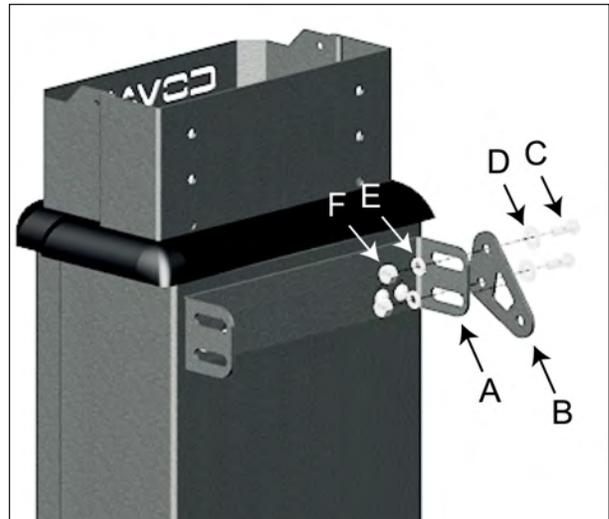
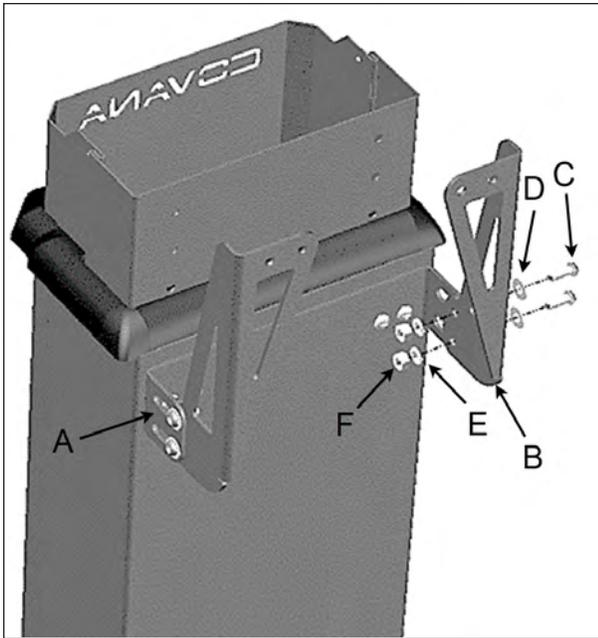
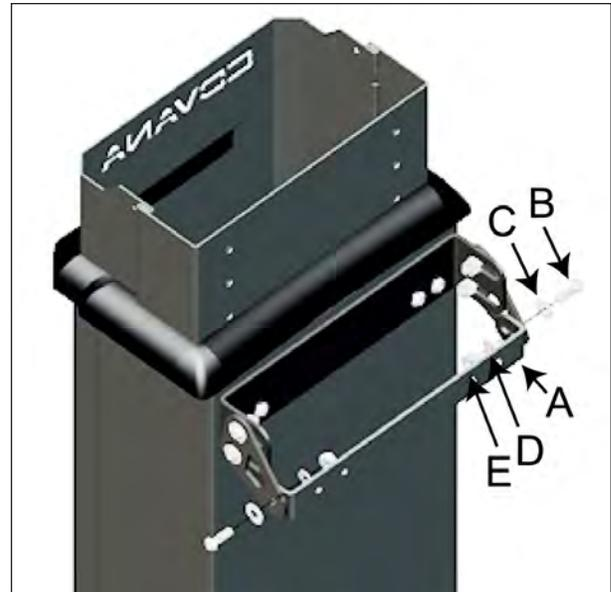

FIGURE 78: SHORT ARM INSTALLATION
FIGURE 79: LONG ARM INSTALLATION
FIGURE 80: TOP TUB MOUNT BRACKET INSTALLATION
- Depending on the height of your swim spa, install the appropriate links sleeve/spa, either the short arms (50" high model; arms pointing down) or the long arms (58" high model) on the upper sleeve bracket already set on the sleeve. Use 1/4-20 x 3/4" button head socket cap screws and 1/4" flat washers outside of the sleeve brackets and 1/4" lock washers and 1/4-20 hex nuts inside of the sleeve brackets for all of the brackets fastening see Figure 78 and Figure 79.
The short arms must go outside the sleeve brackets as shown in Figure 78 while the long arms must go inside the sleeve brackets as shown in Figure 79.
12. Install the tub mount bracket on the short arms using 1/4-20 x 3/4" button head socket cap screws, the 1/4" washers, the 1/4" lock washers and 1/4-20 hex nuts see Figure 80.
18. Remove the sleeves from the spa. If you have a 50" model, remove the upper tub mount brackets installed at step 12 (Figure 80). If you have a 58" model, remove both long arms from each sleeve installed in step 11 (Figure 79).